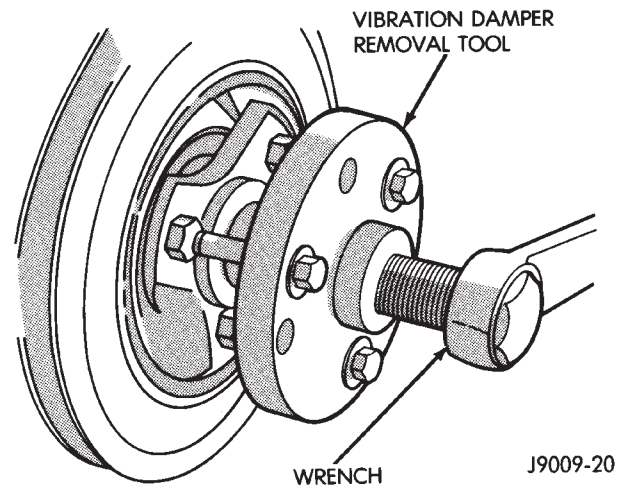

Fig. 1 Vibration Damper Removal Tool 7697
- (1) Disconnect negative cable from battery.
- (2) Remove the serpentine drive belt and fan shroud.
- (3) Remove the vibration damper retaining bolt and washer.
- (4) Use Vibration Damper Removal Tool 7697 to remove the damper from the crankshaft (Fig. 1).